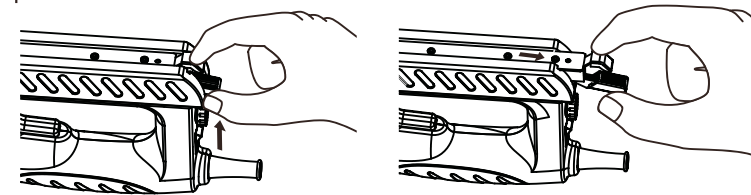

Fig. 1
3. Press the lever (1) in direction of the state nail guage (7) and pull out the magazine slider.
4. Insert a strip of staples (max. 100 staples) with the clip facing down and points upward into the magazine (Fig. 1).
5. Push in the magazine slider as far as it will go until the lever (1) audibly snaps in.